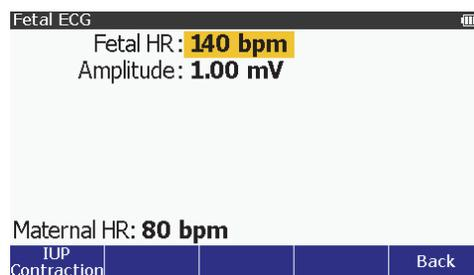

Figure 12. Fetal ECG Screen
2. Push \uparrow , \downarrow , \leftarrow , or \rightarrow to highlight **Fetal Simulation** and then push **ENTER** to show the Fetal ECG screen on the display. See Figure 12.